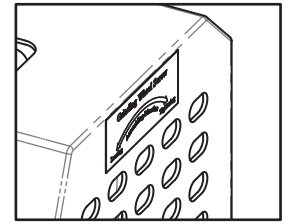

Fig. 16-1
① Unplug the power cord and make sure the power is off.
② Confirm the screw direction on the grinding wheel cover before changing the grinding wheel. (Fig. 16-1)